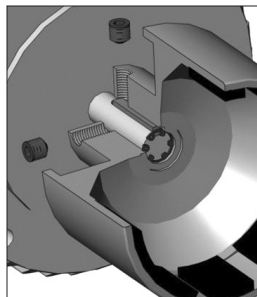

Figure 7
**NEMA Motors:** Install (2) 3/8" set screws (item 17B) into threaded holes on the side of the outer drive magnet assembly. Using a 3/16" Allen bit & torque wrench, tighten to 228 in-lbs (25.8 N-m). See figure 7.